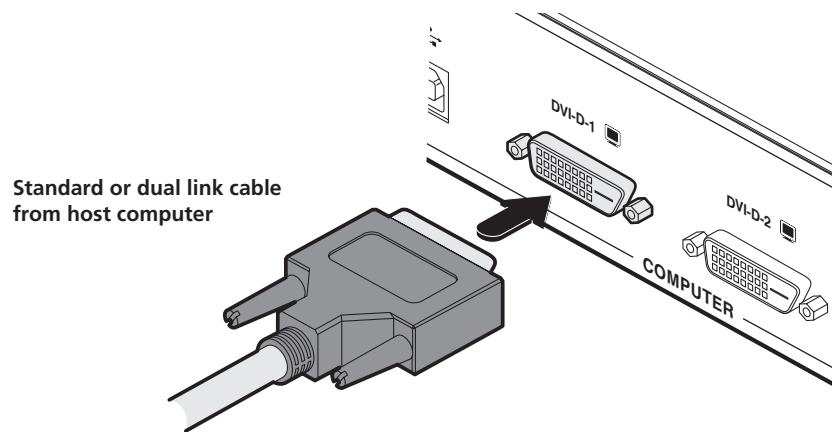

Figure 3-4. Connect a standard or dual link DVI-D cable to the DVI-D-1 socket.
- 2 Connect a standard or dual DVI-D link cable to the DVI-D-1 socket on the Local unit rear panel. See Figure 3-4.